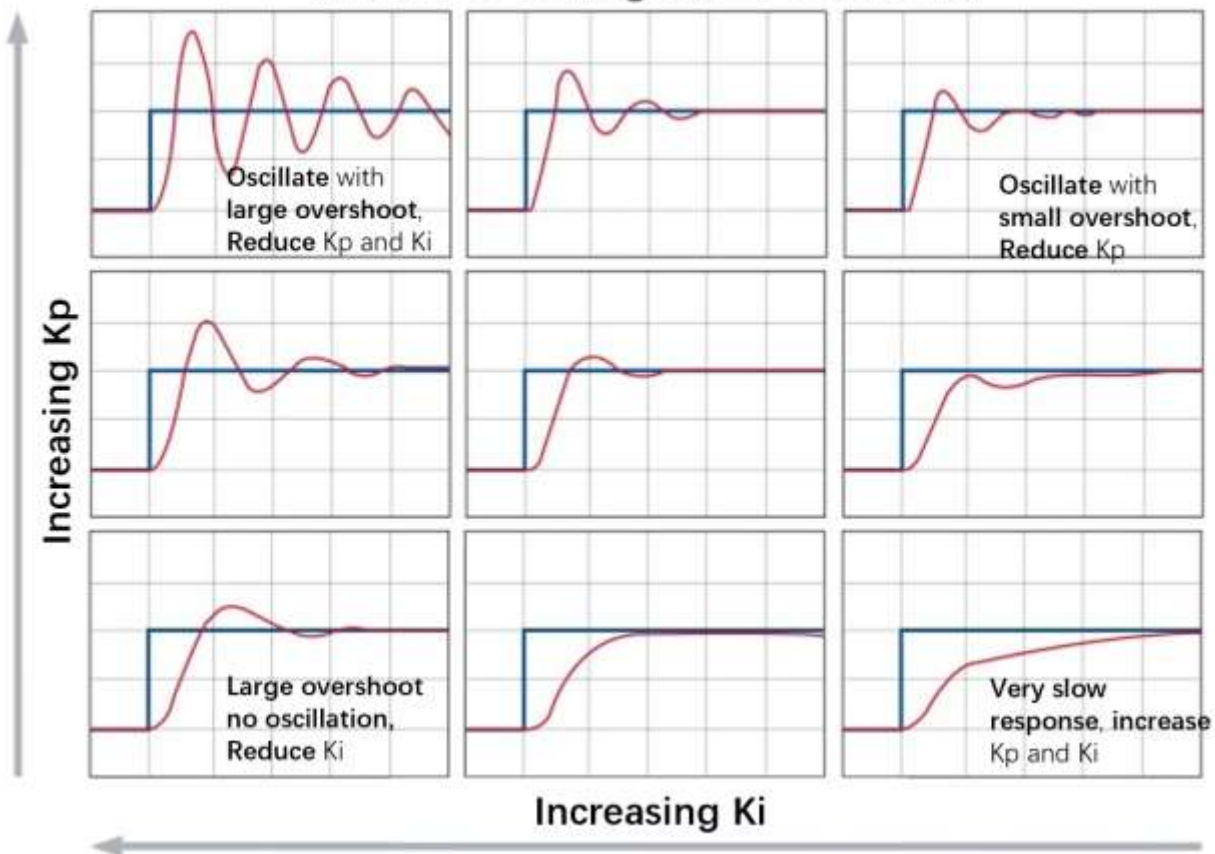

Figure 3 PID tuning rule of thumb
- You will find the time response of IAT is not satisfactory. We need to tune K_p, K_i, K_d of the PID controller. A general experience-based tuning rule is shown below in Figure 3. Tune your K_p, K_i, K_d for a few times and try to get a better time response of IAT . **Explain** why you make such tuning actions and **show** the time response plot of IAT after each time you make the tuning.